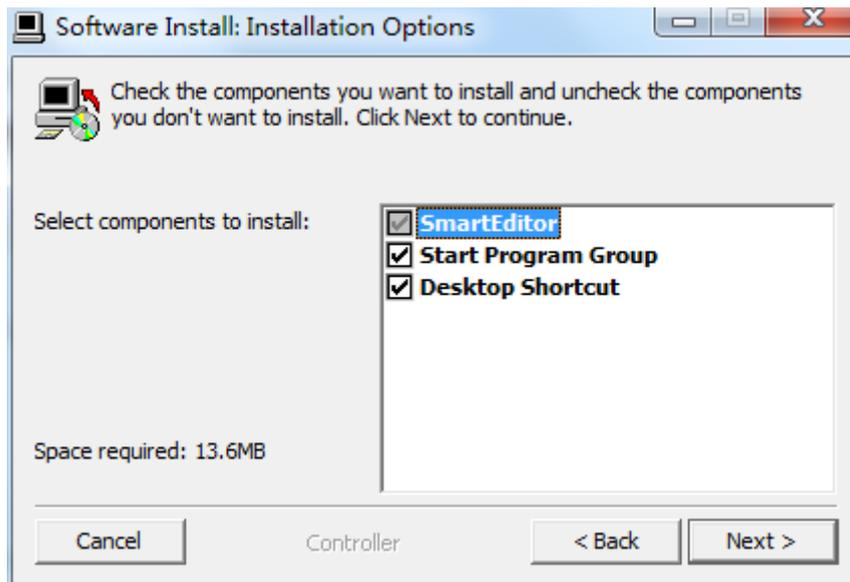

Figure 5-3
(4) Select the “Next” to enter the next interface, as shown in the figure 5-3;